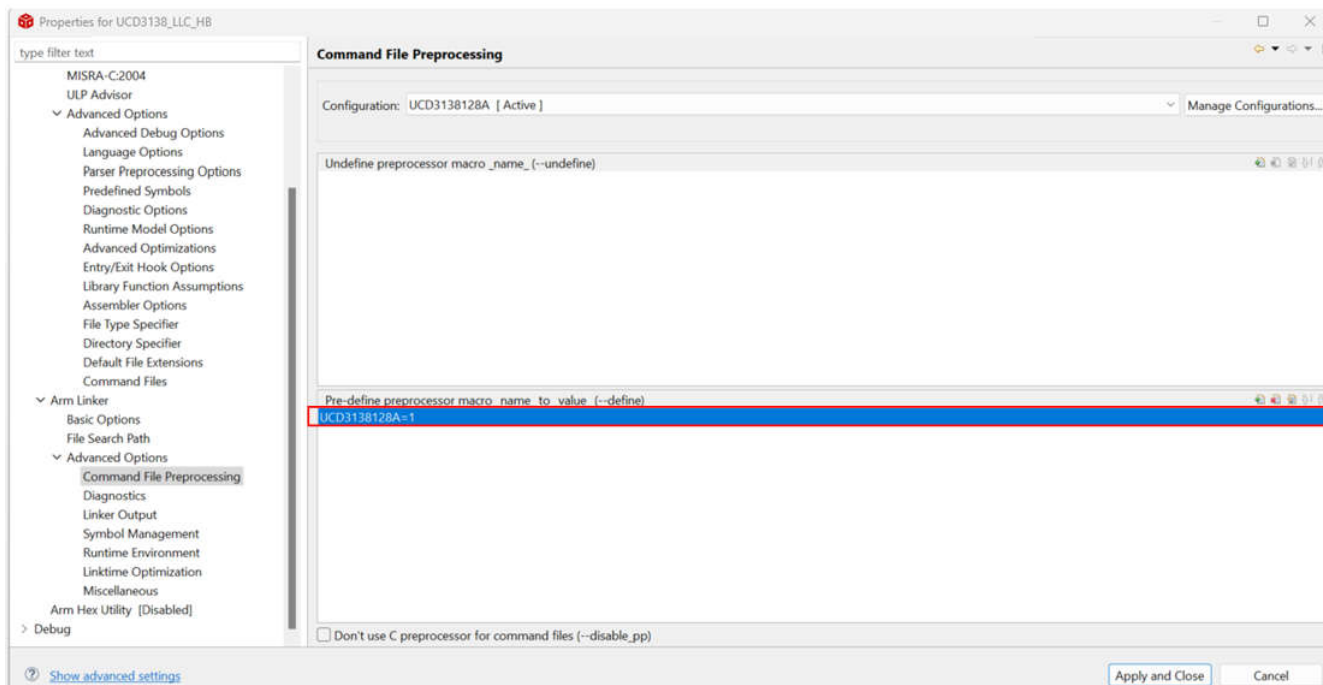

Figure 2-12. Correct Pre-define Preprocessor for Arm Linker
- Configure the correct pre-defined symbols. Open the *Project Explorer* pane, right-click the project name, go to *Properties -> Build -> ARM Linker -> Advanced Options -> Command File Preprocessing -> Pre-define...*, and set UCD3138128A=1 as shown in Figure 2-12.